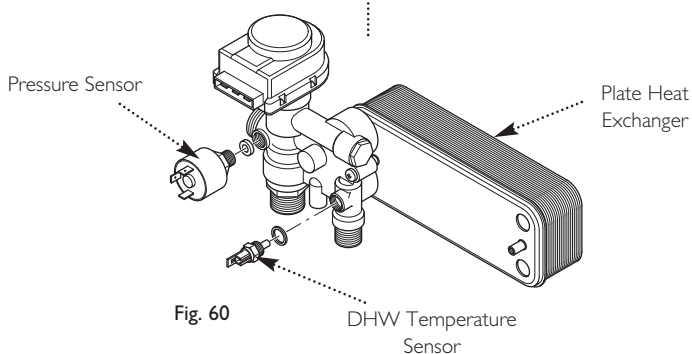

Fig. 60
13.10 Water Pressure Sensor (Fig. 60)
13.13 DHW Temperature Sensor (NTC) (Fig. 60)